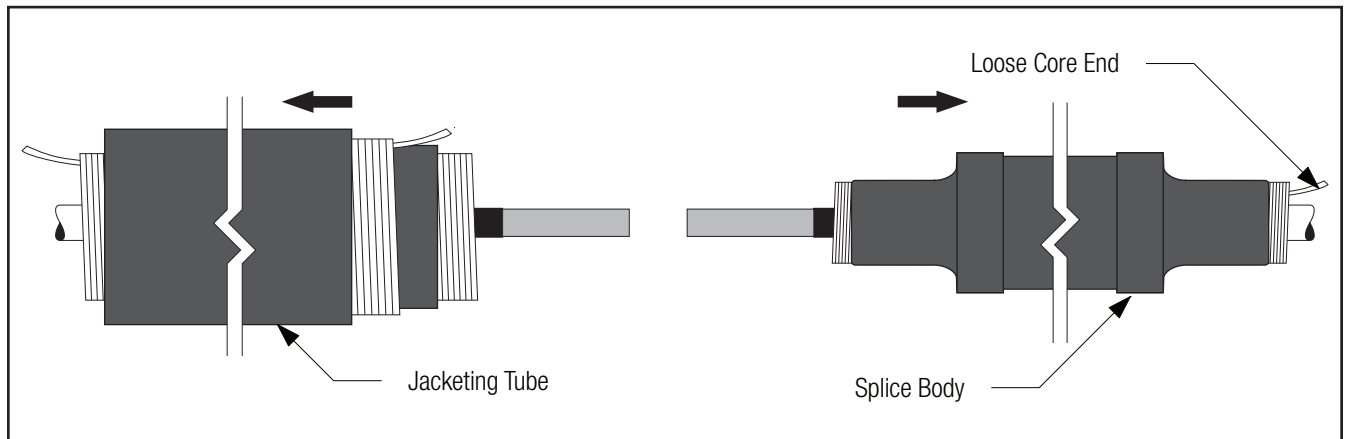

Figure 10
- 3.1 Clean or cover cable jacket if necessary, for cold shrink parking position. Slide jacketing tube onto one cable end. Slide splice body onto opposite cable, loose core end first. For size transitions, park splice on smaller cable (Figure 10).